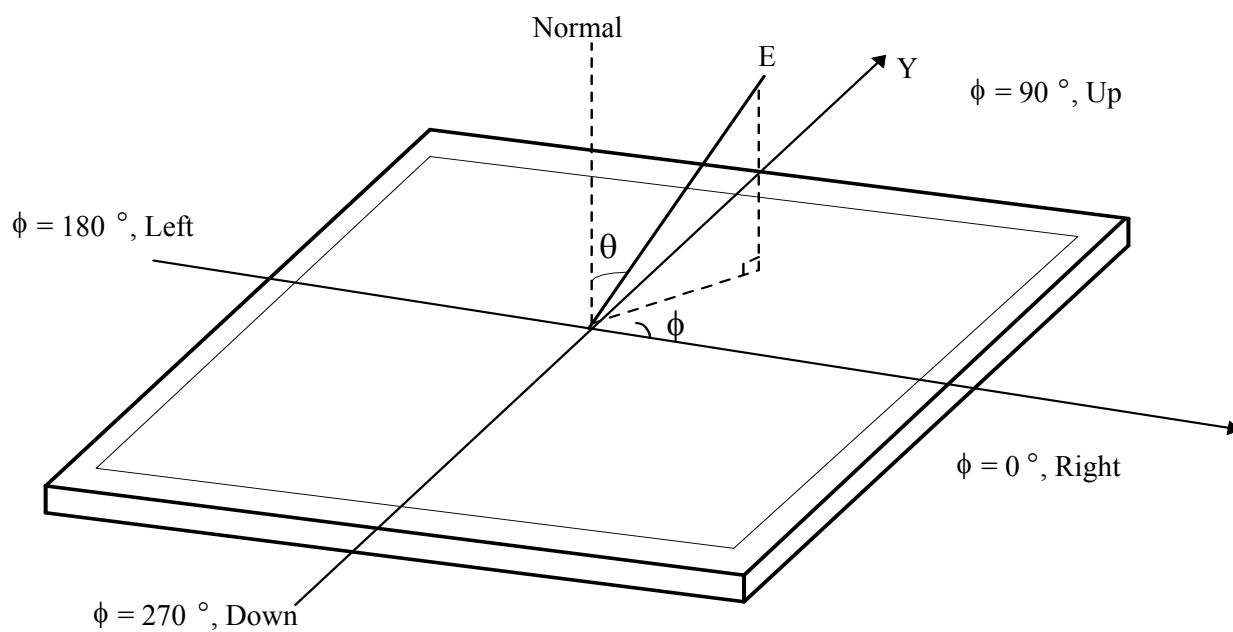

FIG. 4 Viewing angle
6. Viewing angle is the angle at which the contrast ratio is greater than 10. The angles are determined for the horizontal or x axis and the vertical or y axis with respect to the z axis which is normal to the LCD surface. For more information, see FIG 4.